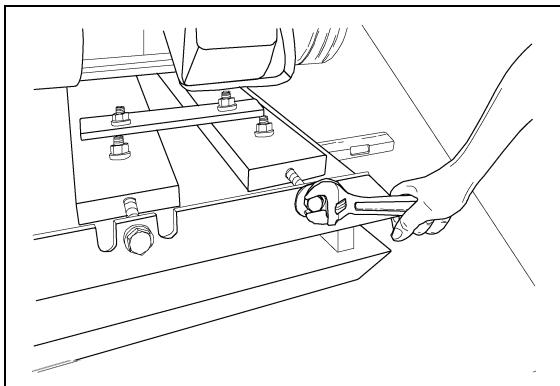

Figure 4H
3. Check the motor name plate for the correct motor frame size. Then refer to the Drawing on *Pages 20* to determine proper mounting holes and spacing of the motor mount channel. The spacing of the motor mount channels is changed by moving the channel to the proper notch cut into the main base of the blower platform. *See Figure 4H* and the Drawing on page 20. Finish by bolting the motor securely to the channels. Leave the four 1/2" carriage bolts loose, holding the channels to the main frame.
5. Place the matching set of V-belts on the pulleys. Tighten the belts by evenly turning the cap screws clockwise. Belts should have 3/8" deflection at ten pounds pressure per belt. (See Figure 4H).